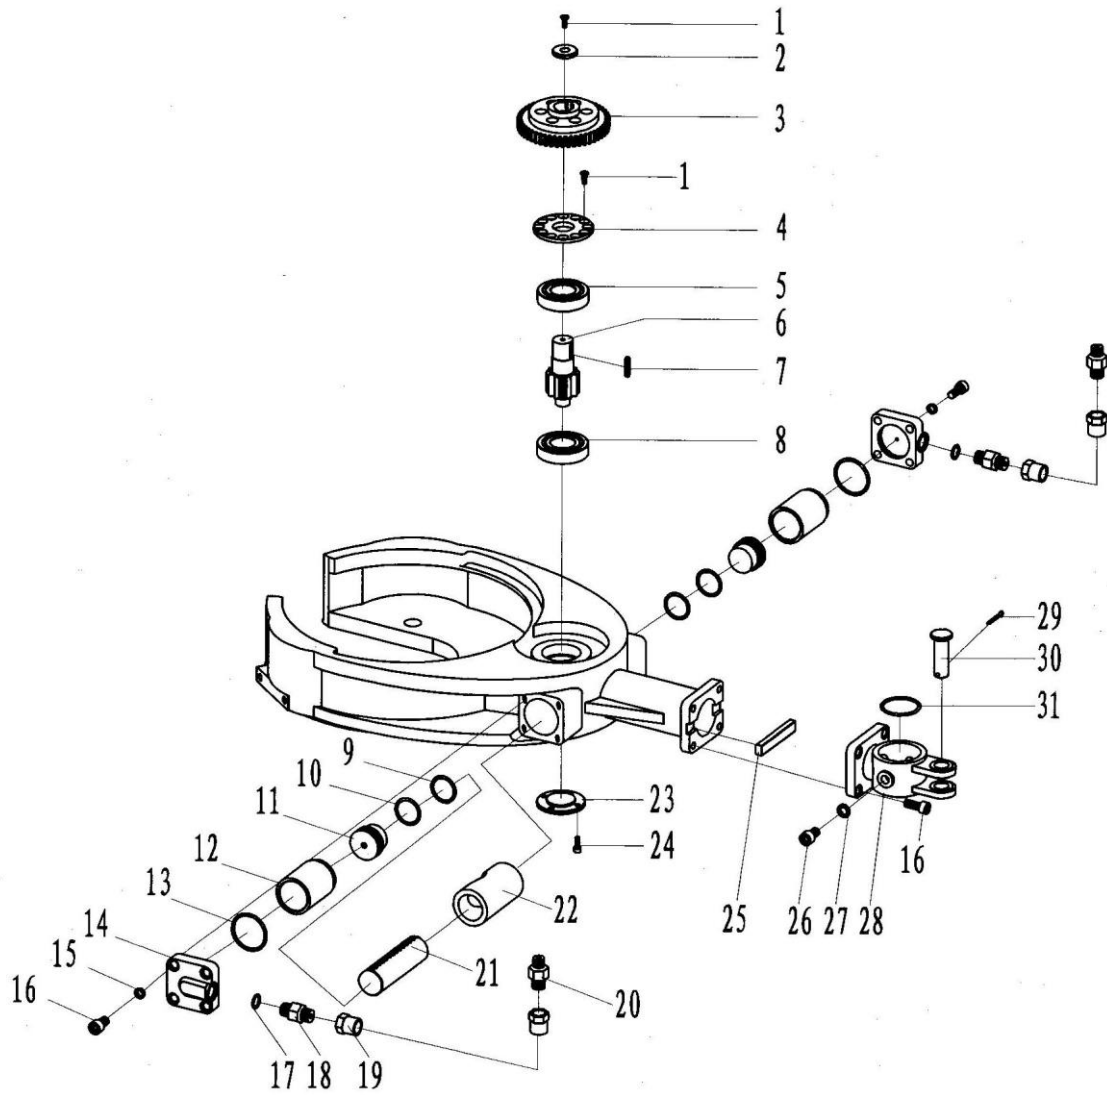

Fig.28
11.11 Tail seat fluid drive mechanism and parts list (Fig.28, Table 15)